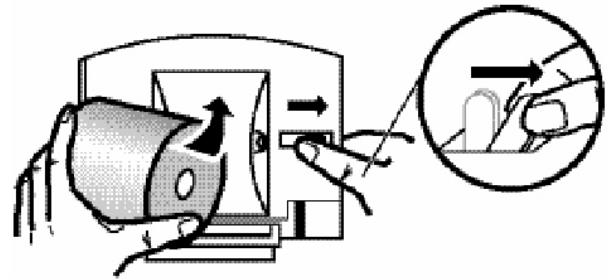

Figure 5
2. Load the paper with pushing the lever simultaneously to the right side. (See Figure 5.)